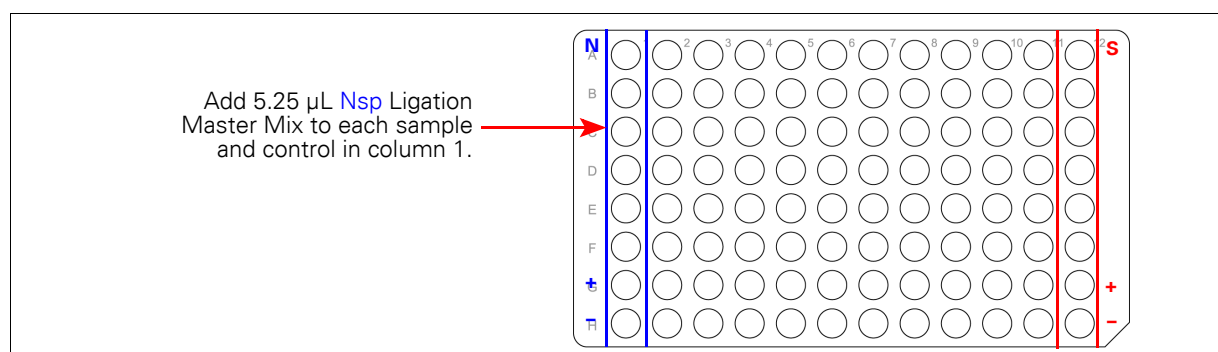

Figure 4.10 Adding Nsp ligate master mix to Nsp digested samples and controls
1. Using a P20 pipet, aliquot 5.25 μL of Nsp Ligation Master Mix to each Nsp digested sample and control (Figure 4.10).